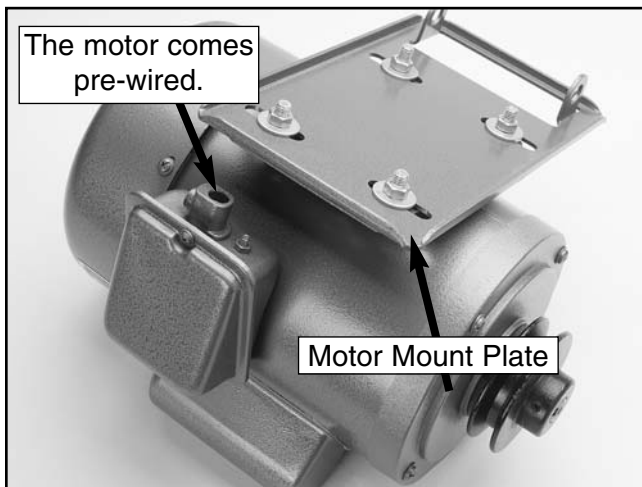

Figure 15. Attaching the motor plate.
1. Turn the motor upside down and attach the motor plate using M8-1.25 x 25 hex bolts, 8MM flat washers and M8-1.25 hex nuts as shown in **Figure 15**. Finger-tighten only.